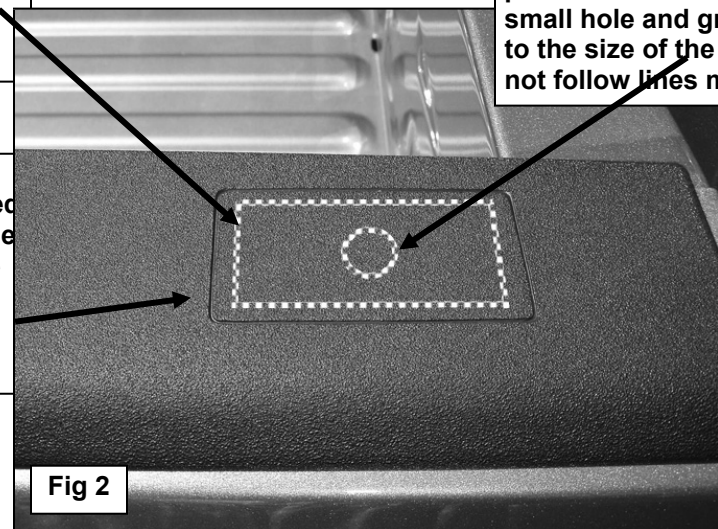

Fig 2
- b. **On vehicles without removable covers:** Locate the center of the stake pocket. Carefully cut or drill a small opening in the plastic cover in the center of the stake pocket. **WARNING**, verify exact location of stake pocket before drilling/cutting plastic cover or damage to top of bedside may result. Gradually enlarge the opening to the size of the stake pocket only, **(Figure 2)**. **IMPORTANT, DO NOT** cut along factory lines molded into the plastic cover as these lines may not represent the correct location or size of the stake pocket and may be larger than the actual stake pocket opening.